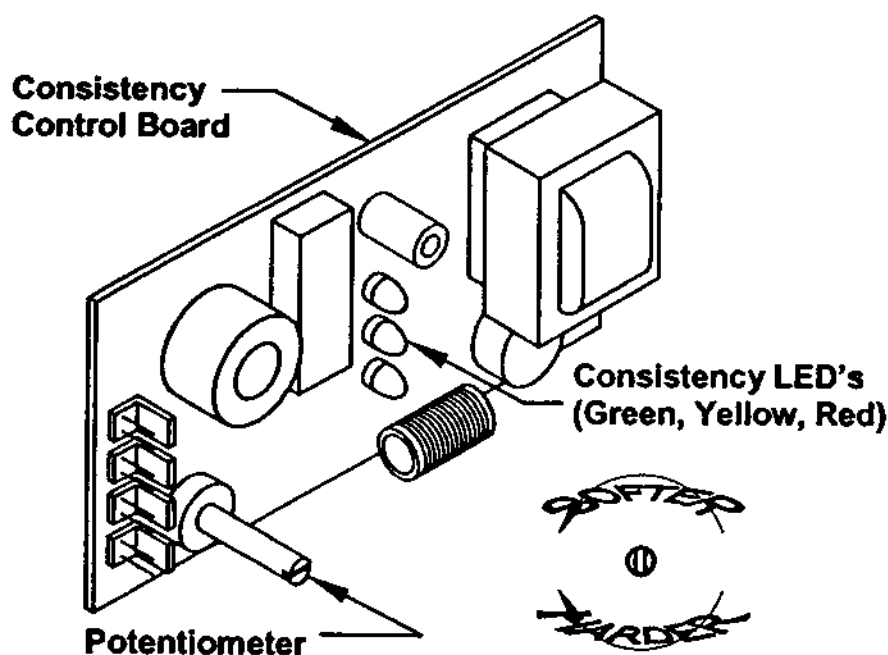

Fig. 45
1. **DISCONNECT THE POWER.** Remove the wiring box cover (Exploded View) and use a small slotted and insulated screwdriver to set the consistency control to the twelve o'clock position (Fig. 45). Turn the